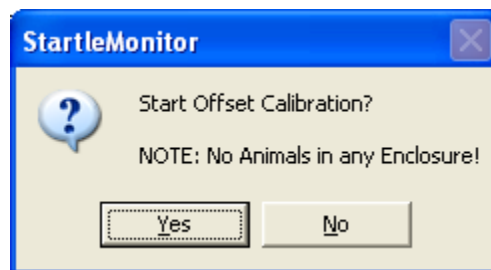

Figure 114 Mechanical Offset
5. The following window (Figure 114) appears (only if the **Capture Weight** check box on the **Default Runtime Settings** screen is checked as described in Section 2.6.3):